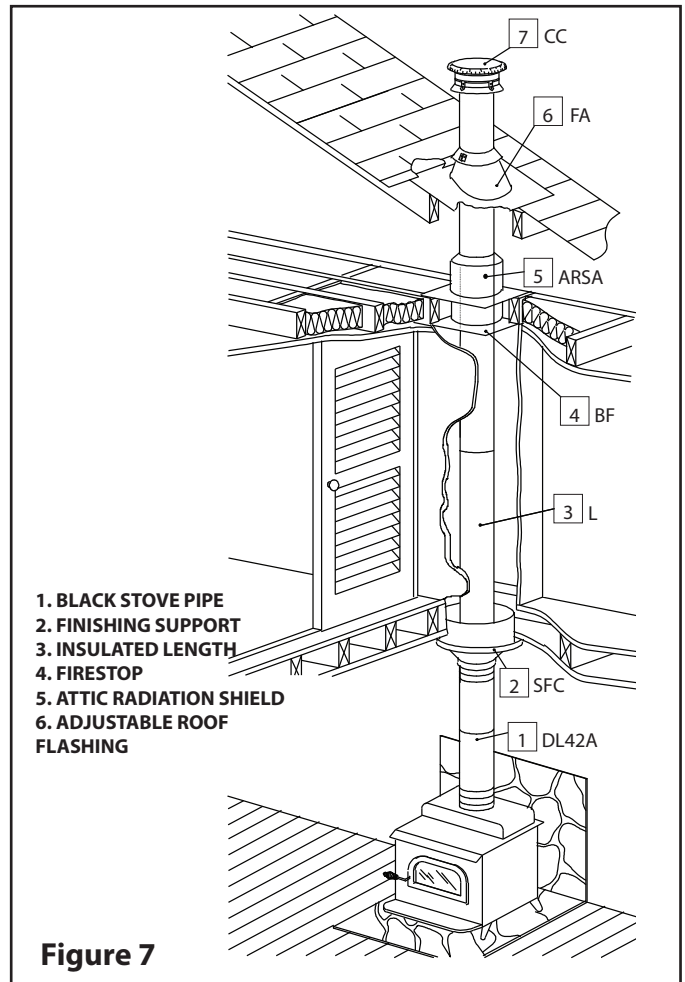

Figure 7
Step 4. Put the first chimney length in the support. Turn it clockwise to lock it in place (see **Figure 7**).